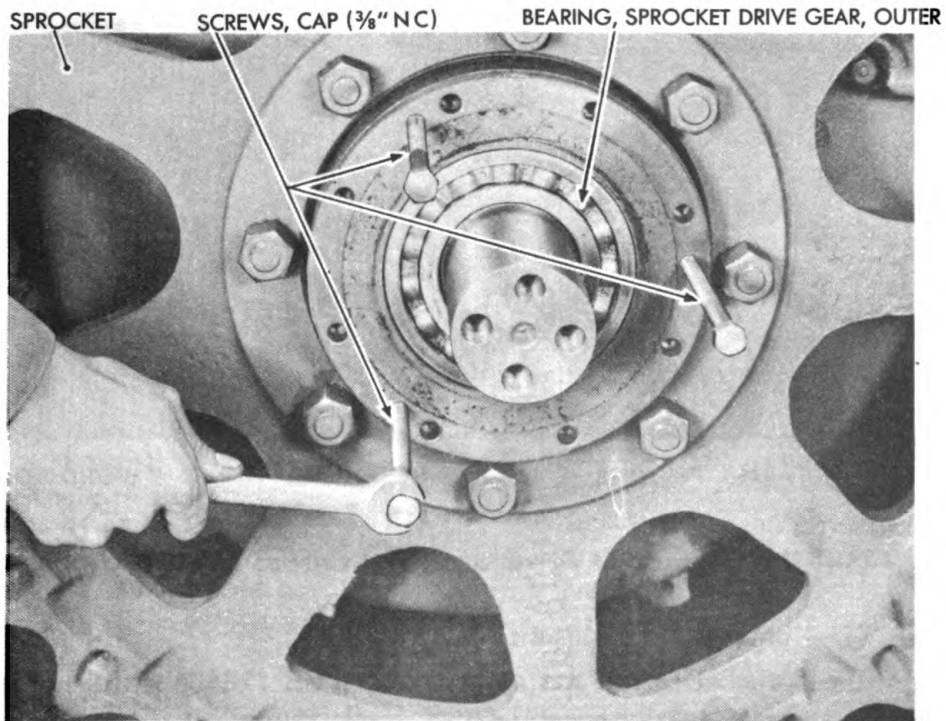

Figure 120 – Sprocket Drive Gear Outer Bearing Cage Removal
(4) REMOVE SPROCKET DRIVE GEAR OUTER BEARING CAGE (fig. 120).